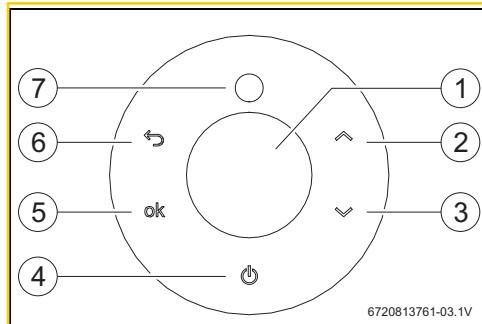

Fig. 39 Touch control display
- Touch and hold symbol for more than 3 sec. The LCD display shows the selected temperature. When the burner is on, the display shows symbol (Fig. 39, [7]).